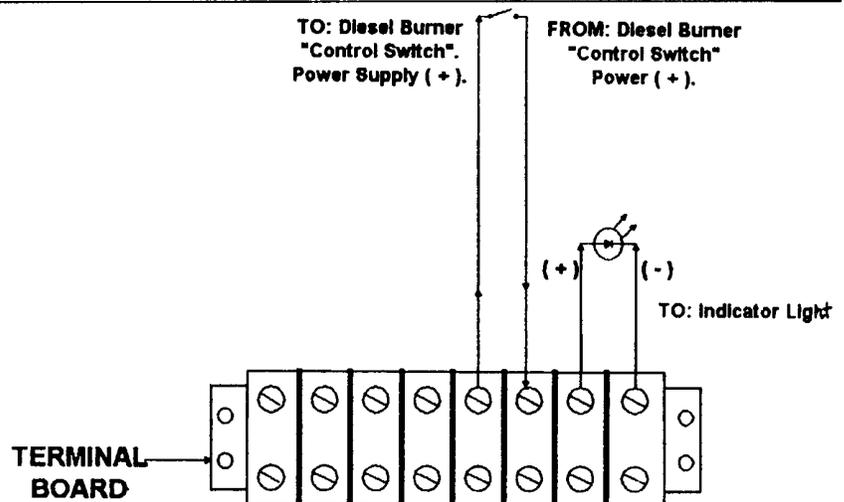

Figure 20
**NOTE:** If indicator light is polarity sensitive, see terminal board for proper polarity, see Figure 20.